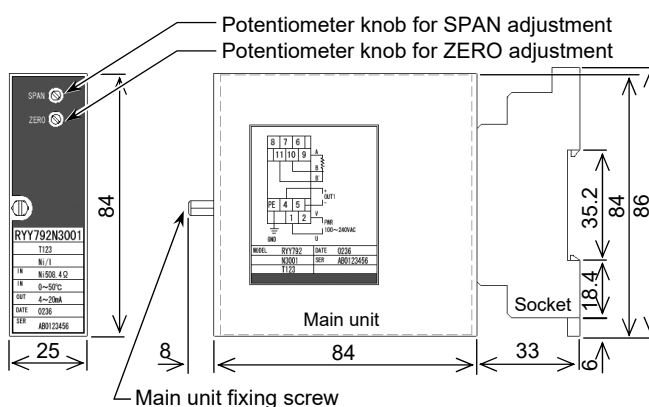

Figure 1. Dimensions (mm): With the socket assembled
Dimensions	Refer to Figs. 1 and 2.
- 1) Mount the socket on the panel with DIN rail or screws. For screw-mounting, mounting screws (M4 × 15 or longer) are additionally required. Mounting dimensions are shown in Figs. 1 and 2.